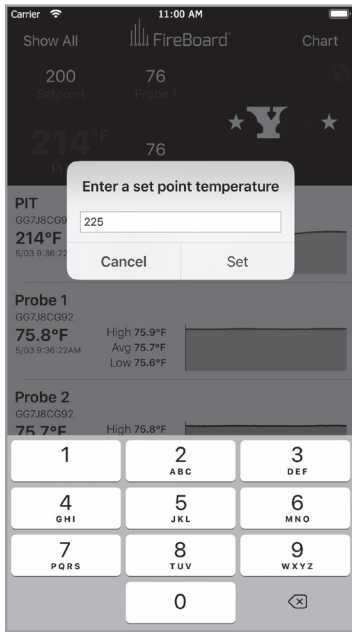

FIG 28
- You can change the pit’s setpoint by tapping on the setpoint in the gray banner (**FIG 28**). Simply enter your new desired setpoint and tap the “Set” button. Please note that changes to the setpoint take a few seconds to take effect. Please be patient for them to be reflected in the cooker and in the app’s dashboard.